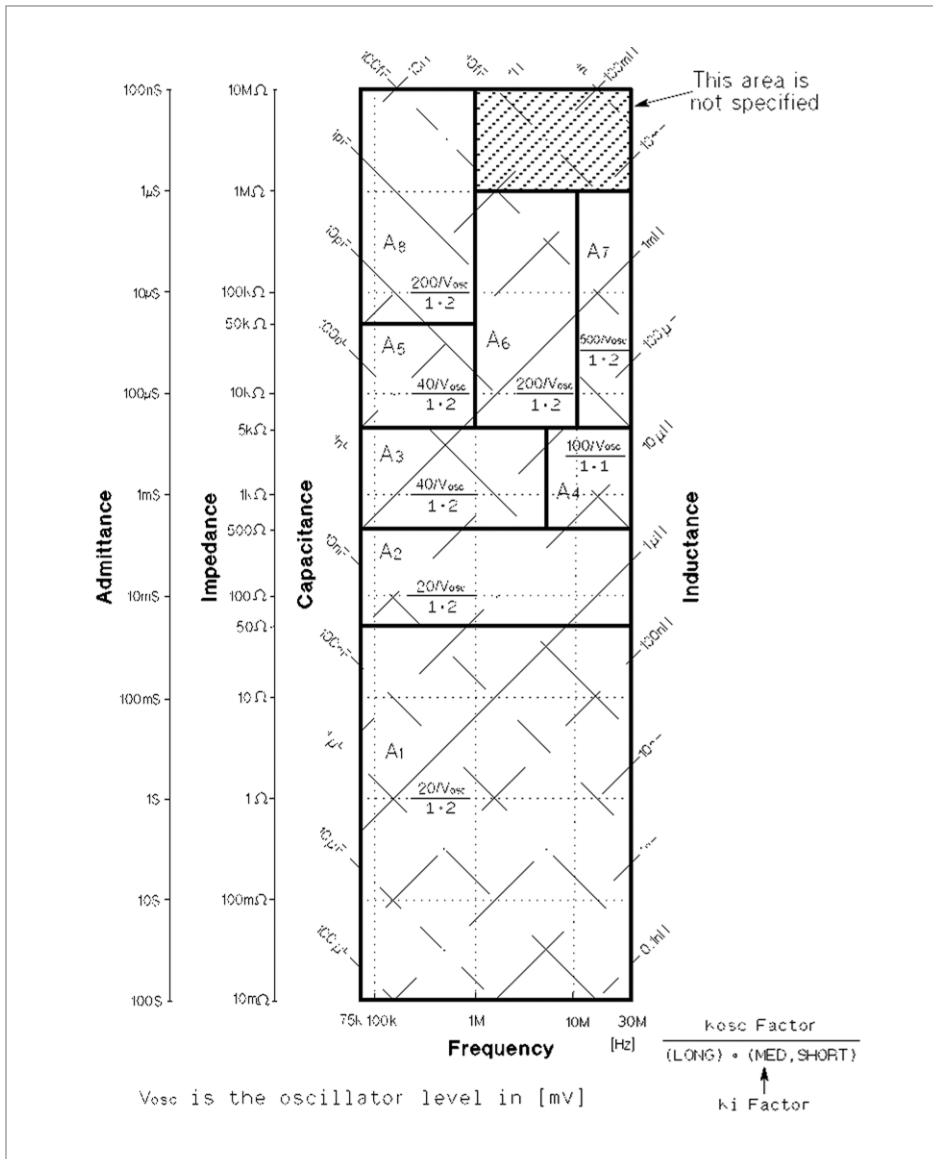
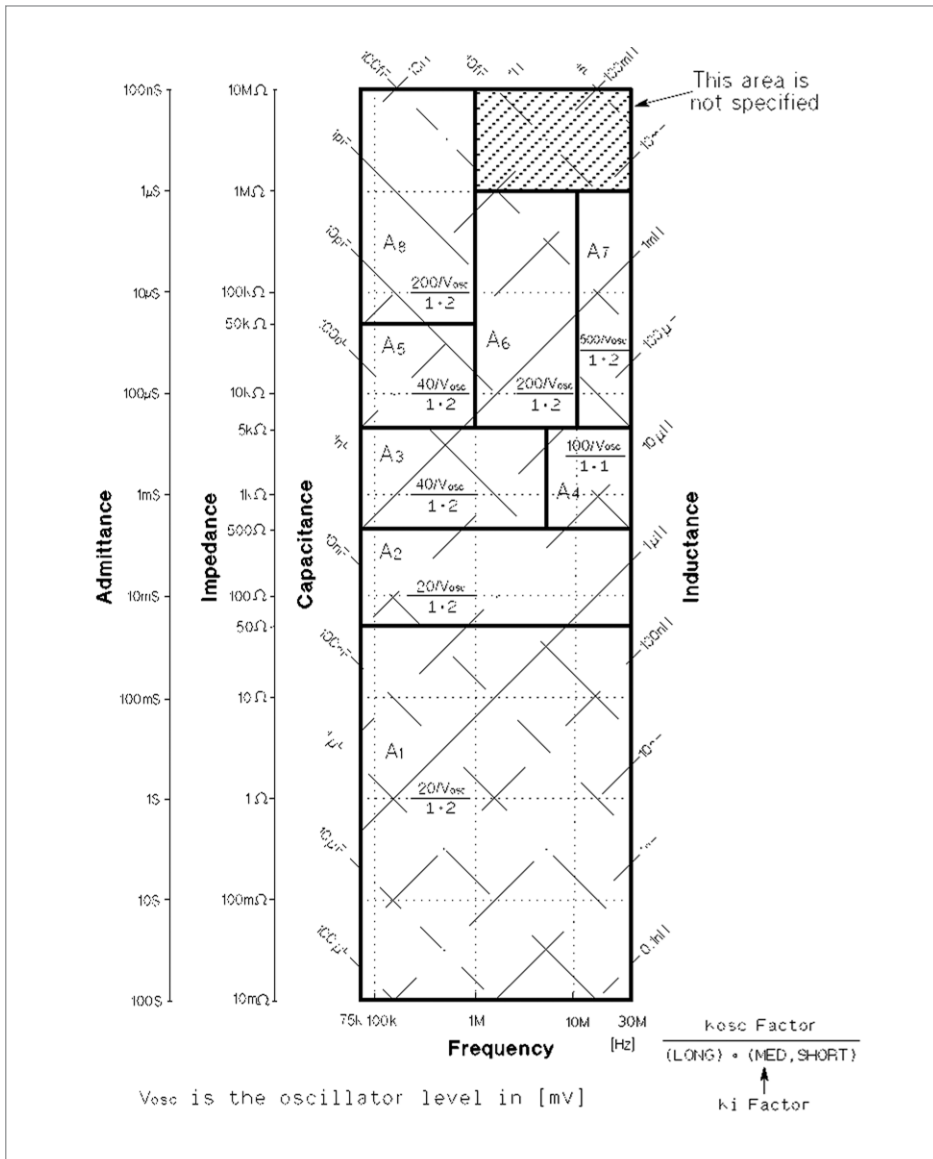

Figure 1-3. Accuracy equations, K_i factor, and K_{osc} factor (test signal level ≤ 1 V_{rms})
Figure 1-4. Accuracy equations and K_i factor (test signal level > 1 V_{rms})
A_n = Basic accuracy equation given from the A_1 to A_{16} shown in Table 1-1. The applicable frequency range and impedance range of equations A_1 to A_{16} are shown in Figure 1-3 and Figure 1-4. (Refer to *Basic Accuracy Equations* on page 7.)
1. Determine A_n equation from Figure 1-3 or Figure 1-4. In both charts, boundary line belongs to the better accuracy area.
When the oscillator level is $\leq 1 V_{rms}$, determine A_n to be applied, value of K_j and value of K_{osc} from the Figure 1-3. If the determined $K_{osc} \leq 1$, then round up K_{osc} to 1.
When the oscillator level is $> 1 V_{rms}$, determine A_n to be applied and value of K_j from the Figure 1-4.
3. Choose an accuracy chart from Figure 1-3 and Figure 1-4. The oscillator level is 1 V_{rms}, then Figure 1-3 is chosen for this measurement.
4. Find the frequency point of f_m (25.2 MHz) along the X axis in Figure 1-3. Both axes are in log format. Interpolation may be required.
5. Find the impedance point of Z_m (35 Ω) along the Y axis in Figure 1-3 determined in step 2. Both axes are in log format. Interpolation may be required.